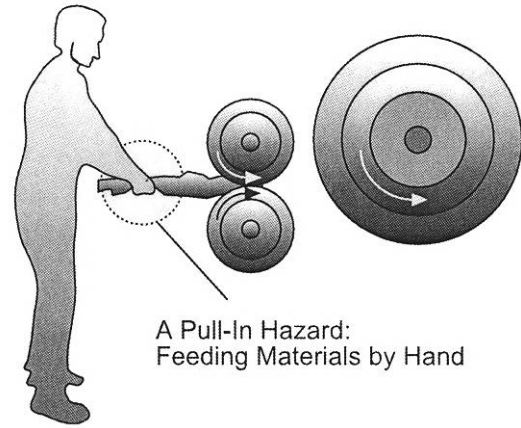

Figure 4. Machinery can pull you in faster than you can think to let go.
- **Pull-in points** — involve mechanisms designed to take in crops or other materials for processing. They include combine headers, windrow pickups, forage chopper headers, and grinders (Figure 4).